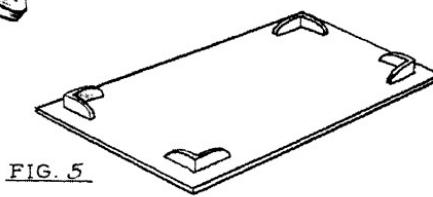

FIG. 5
9. Make the corner pieces and solder them to the lid (Fig. 5).